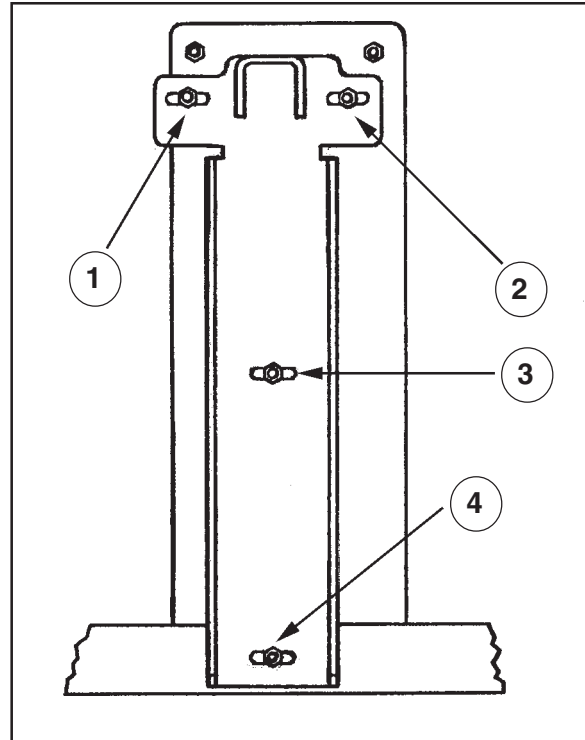

Figure 37
6. Locate the four mounting studs on the brush head bracket. See figure 37. The top two mounting nuts can be accessed through the top of the solution tank. The lower two can be accessed through the front. Loosen the four mounting nuts 2 to 3 turns counterclockwise. NOTE: Do not remove mounting nuts.
3. Loosen the 4 mounting nuts shown in figure 37, by following steps in the procedure above (How to Center or Offset the Brush Head).